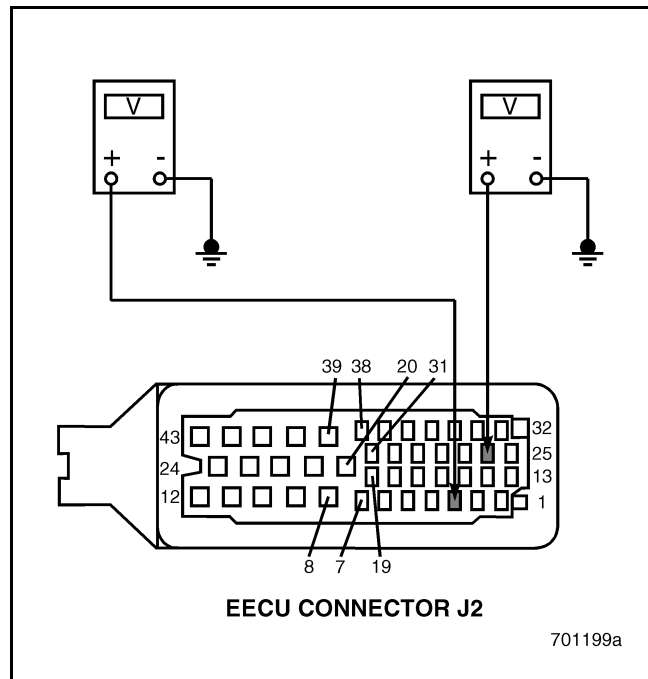

Figure 102
4. Measure the voltage between EECU connector J2 pin 3 and a good ground (see Figure 102).
5. Measure the voltage between EECU connector J2 pin 26 and a good ground (see Figure 102).